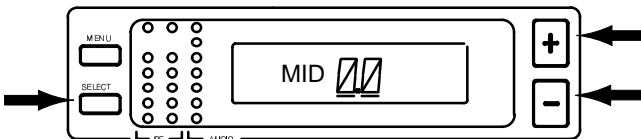

FIGURE 27
3. Press the SELECT button to display the current squelch level, as shown in Figure 27 (factory preset value is "0.0").